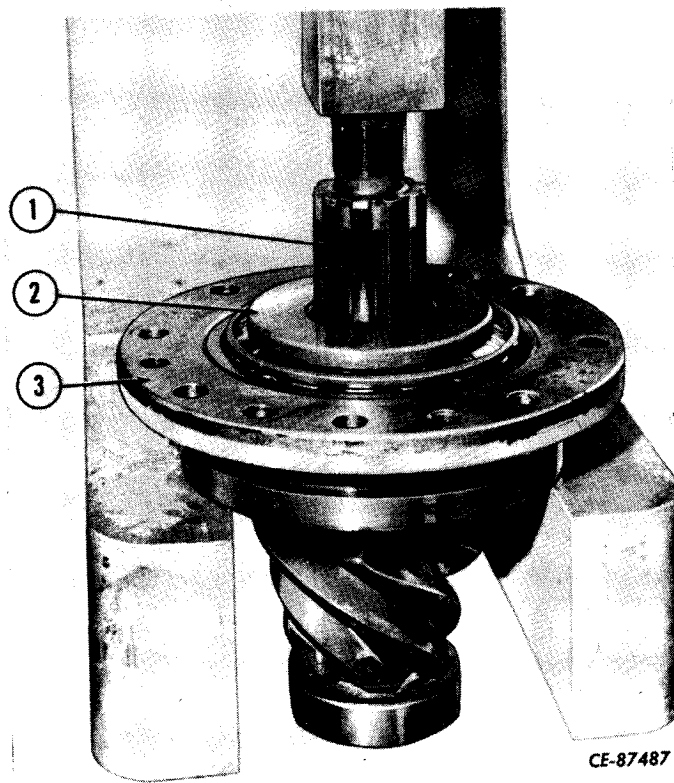

Figure 6-46
Support the bearing cage (3, Fig. 6-46) and press the pinion shaft (1) from the pinion outer thrust bearing (2). The bearing cups may be pressed out of the bearing cage, if necessary.